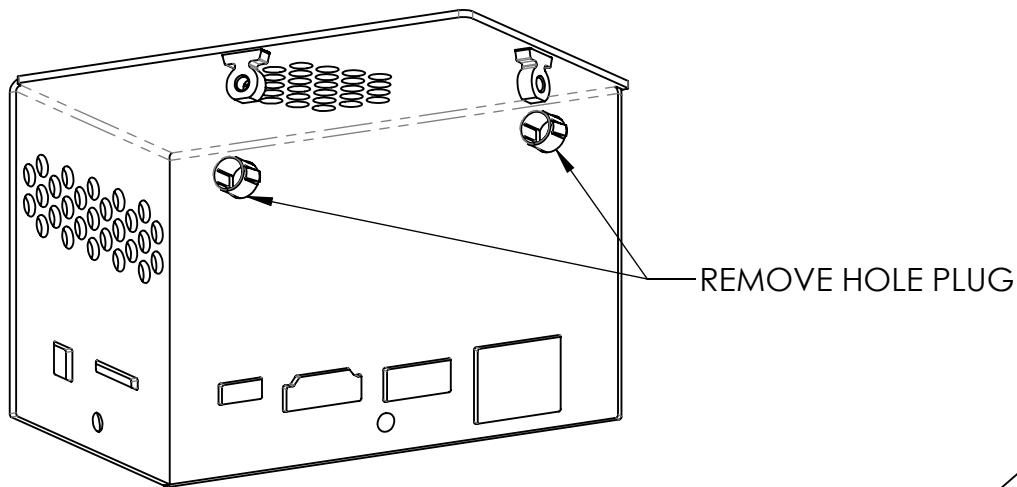

FIGURE 4
1. FIGURE 4 SHOWS THE BACK SIDE OF THE COVER. USING A NEEDLE NOSE PLIER TO COLLAPSE THE HOLE PLUG, CAREFULLY REMOVE THE HOLE PLUG CAPS.